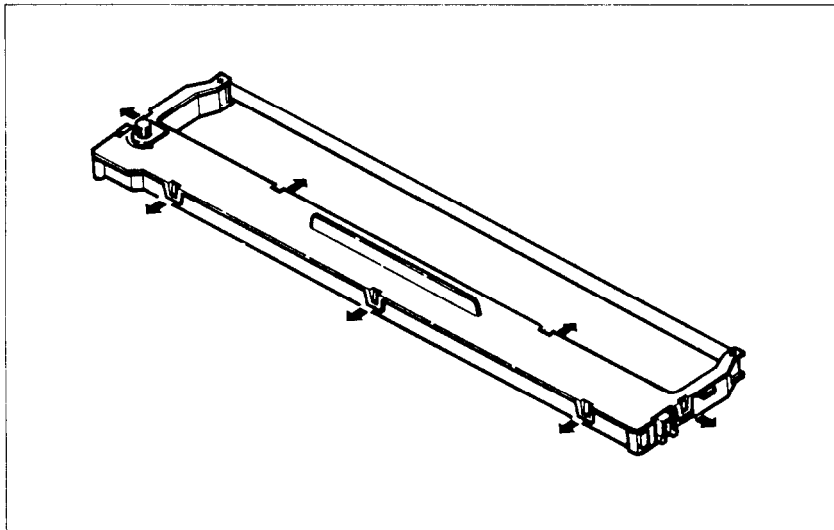

Figure 8-1. Unhook tabs to pry open the cartridge.
1. Place the cartridge on a flat surface, and use a flatbladed screwdriver to unhook the tabs holding the two sections of the cartridge together. See Figure 8-1.